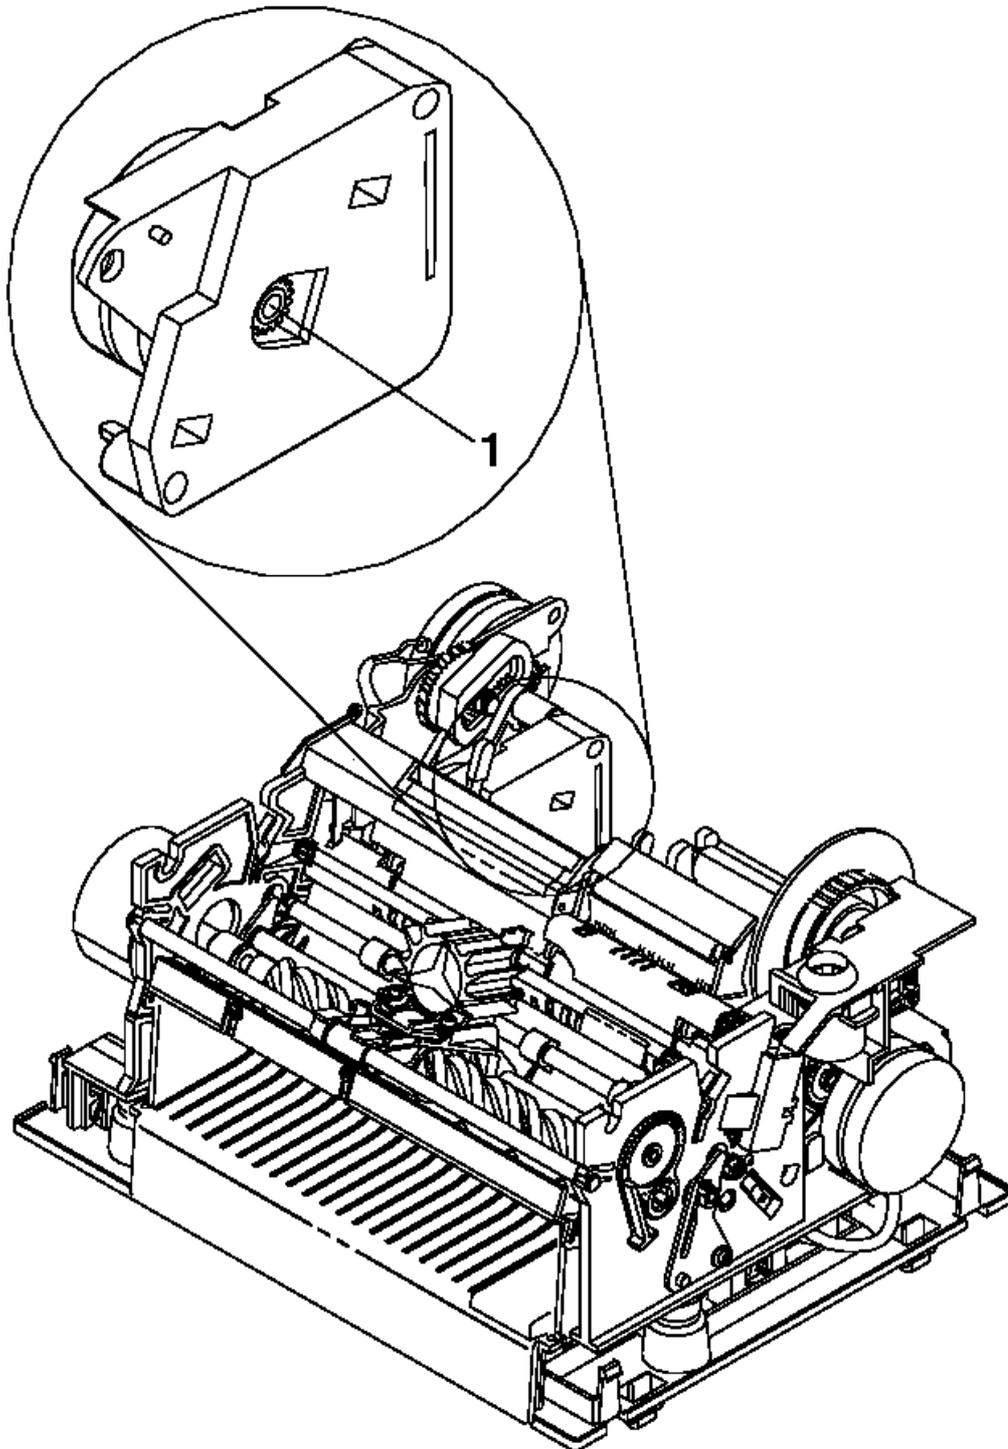

Figure 6-10. CR Motor Gear
- Observe the gear (1) on the side of the station. See Figure 6-10.